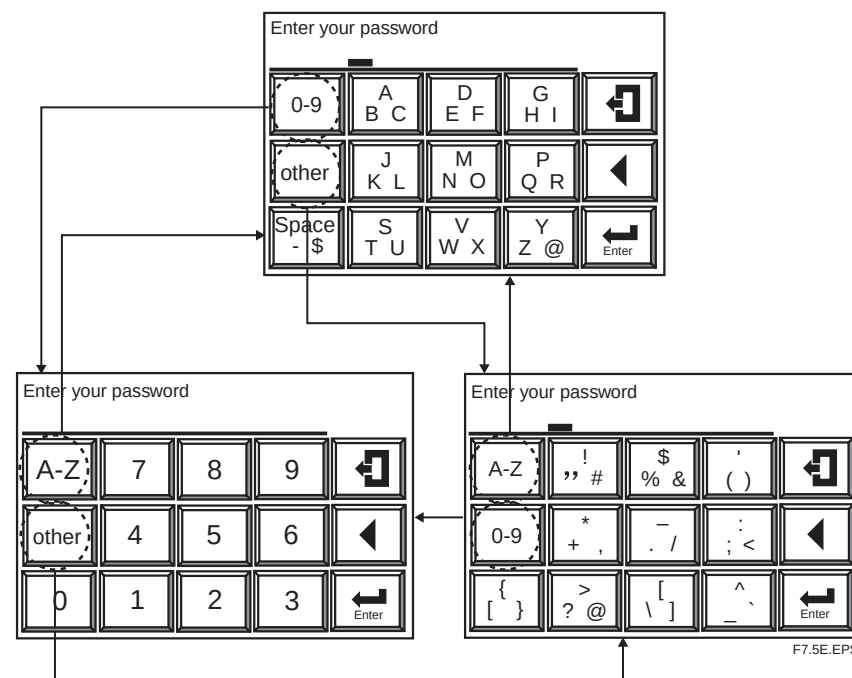

Figure 6.17 Text Entry Display
To enter a password (in combination with text data, numeric values and codes), the alphabetic character entry panel display first appears. If you press any numeral key (0 to 9), the current display then changes to the numeric-value entry panel display, enabling you to enter numeric values. If you press the “other” key, the current display then changes to the code-entry display, enabling you to enter codes. These displays alternate between the three. Figure 6.17 shows the relationship between these three displays. Three alphabetic characters and three codes are assigned for each individual switch. If the alphabetic character key is pressed and held, three characters appear in turn. Move the cursor to the desired character and release the key to enter it. If an incorrect character is entered, move the cursor to re-enter the characters. The following shows an example of entering “abc%123.”